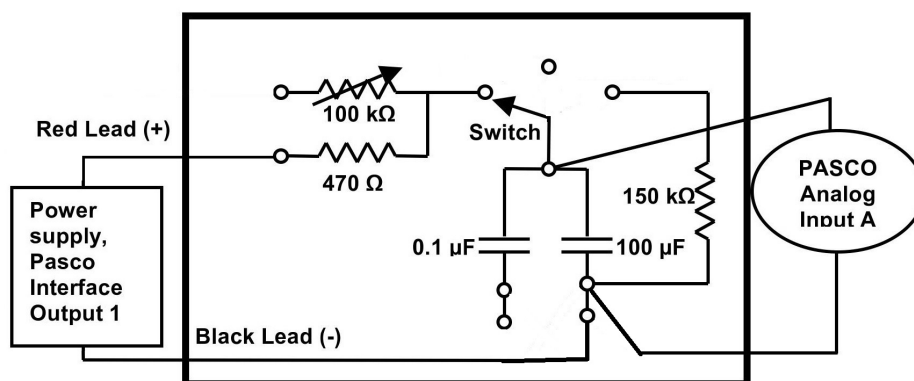

Figure 4.3: Circuit for session 1.
1. Turn the wooden board over to reveal the circuit Fig. 4.3. There are actually two circuits here, one consisting of a $100\text{k}\Omega$ rheostat (variable resistor) and the $100\mu\text{F}$ capacitor, the other consisting of a 470Ω resistor and a $0.1\mu\text{F}$ capacitor. We will not use the $0.1\mu\text{F}$ capacitor, or the rheostat.
Fig. 4.3. The $100\mu\text{F}$ capacitor can now charge through the 470Ω resistor (when in the “charge” state on the wooden board) and discharge through the $150\text{k}\Omega$ resistor (when in the “discharge” state). The charging voltage is read on the computer as Input A measures the voltage across the $100\mu\text{F}$ capacitor. The Output 1 is the one with the red and black connectors and the analog inputs are labelled with letters on upper half of the interface and on the right.
1. Connect the circuit as shown in Fig. 4.3 and explained above.
11. Answer the following questions in the results section of your log book. Should all the time constants be the same or different? Why and why not? What would happen if we had used the rheostat instead of the 470Ω resistor in Fig. 4.3 and used a DC voltage source (with the On/Off switch on the board) instead of a wavefunction source: would we have the same time constant for both charging and discharging? If you have time, you should test your hypotheses experimentally.